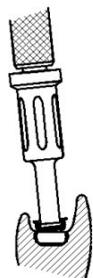

Fig. C3
8. Use the LOCATOR[®] Male Removal Tool (attached to the LOCATOR[®] Core Tool) to remove the Black Processing Replacement Male from the metal denture cap. The sharp circular edge on the end of the removal tool should be wedged tightly down into the very bottom of the Male so that it will catch the inside of the Male and pull it at an angle out of the metal housing. (Fig. C3) To discard the Male from the tip on the LOCATOR[®] Core Tool, point the tool down and away from you and tighten the Male Removal Tool clockwise back onto the Core Tool. This will activate the removal pin and dislodge the Male from the tip end of the Male Removal Tool.